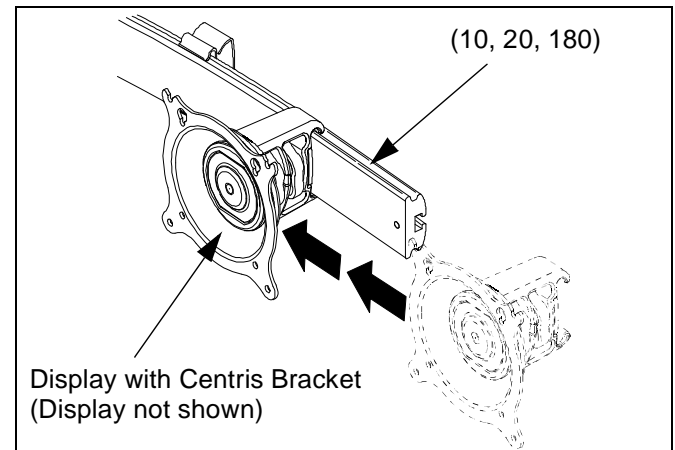

Figure 11: Mount Display with Centris Bracket to Array Rail
7. Slide display with Centris bracket onto array rail (10, 20, 180) (see Figure 11).